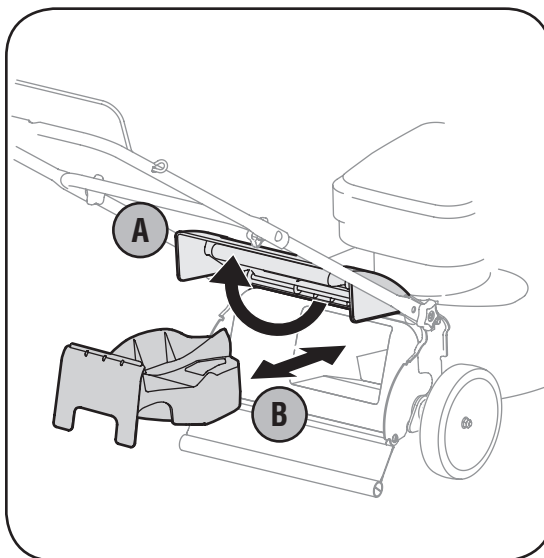

Figure 3-5
6. Before attaching the grass catcher, the rear mulching plug must be removed. Refer to Figure 3-5.
- b. Insert the rear mulching plug as shown in Figure 3-5 and release the rear discharge door.